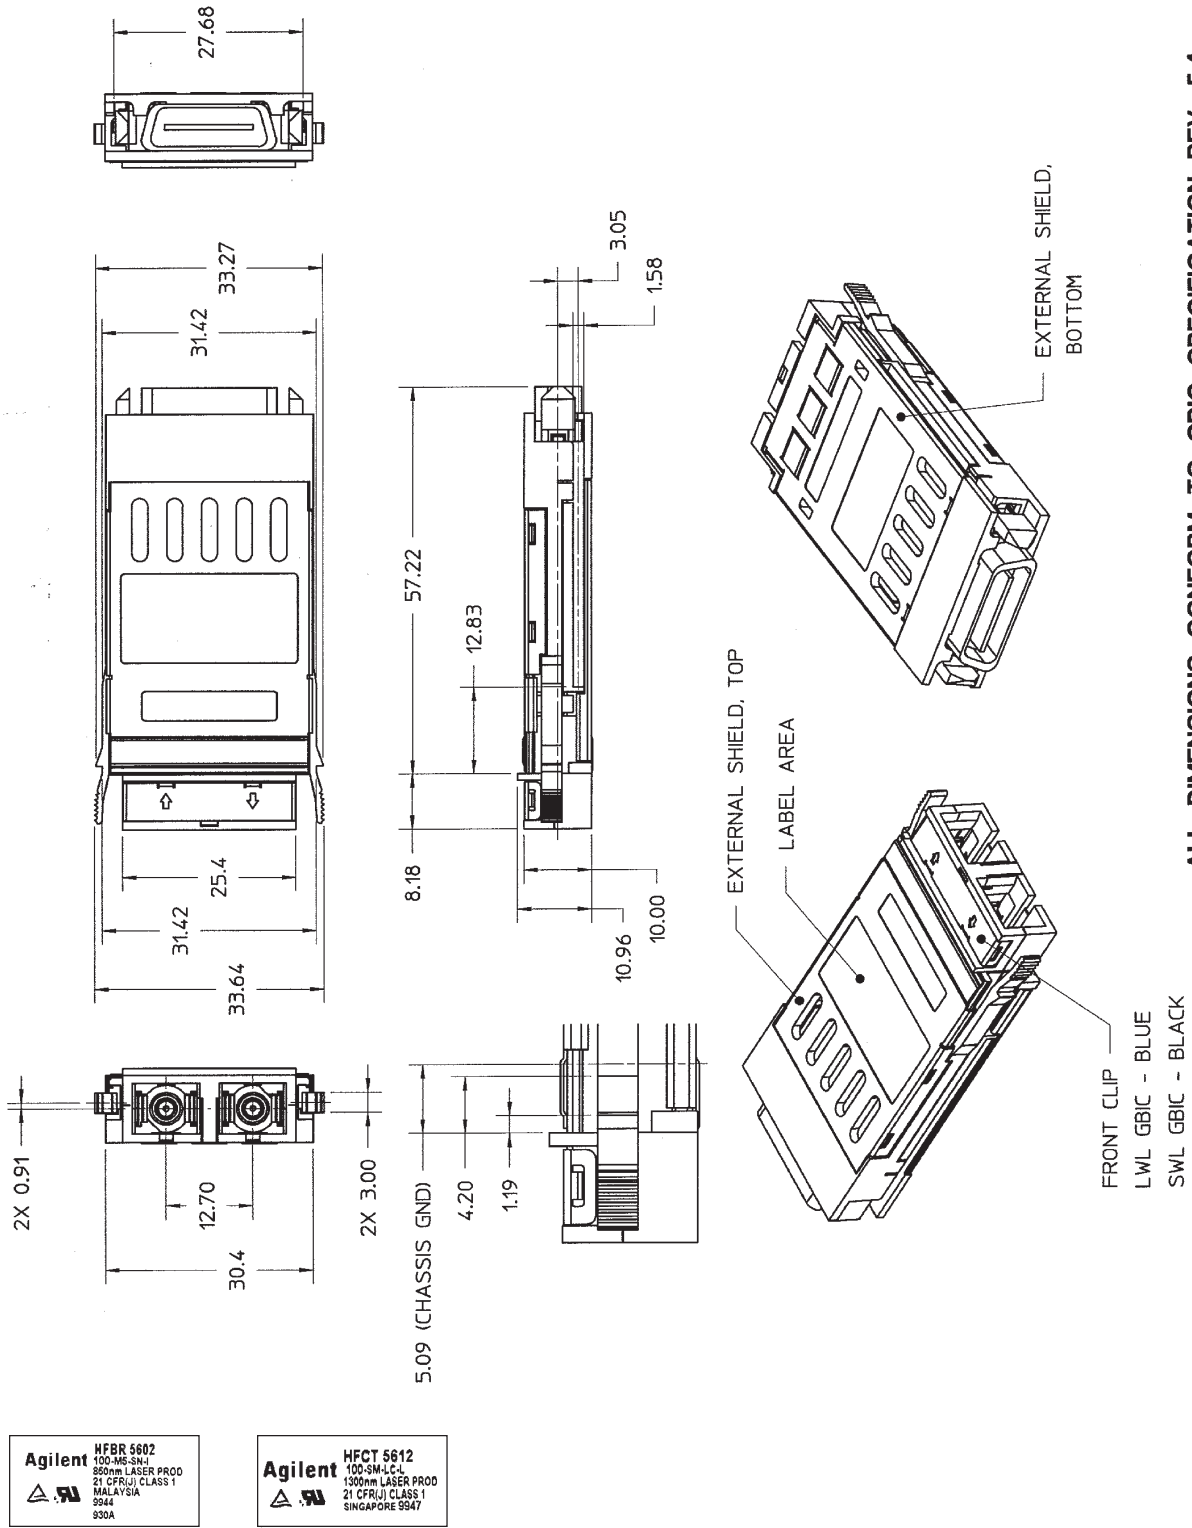

Figure 1. Outline Drawing of HFBR-5602 and HFCT-5612.
An outline drawing is shown in Figure 1. More detailed drawings are shown in Gigabit Interface Converter specification Rev. 5.4.
- See Figure 1 for measurement point.